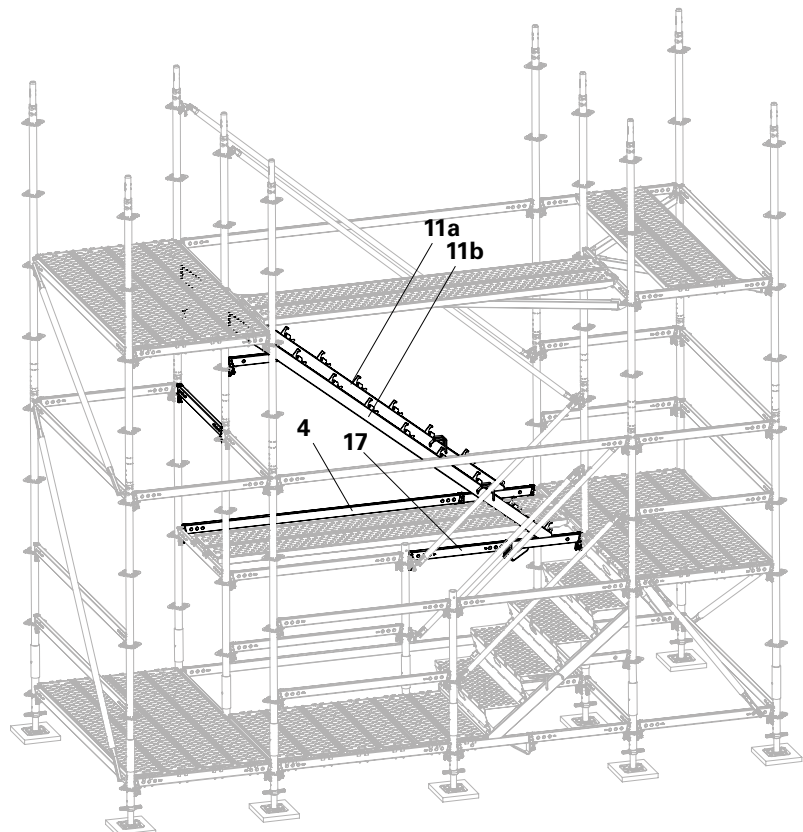

Fig. A8.13
3. Brace the inner stair stringer (**11b**) with Horizontal Ledger UH-2 75 (**17**). (Fig. A8.13)